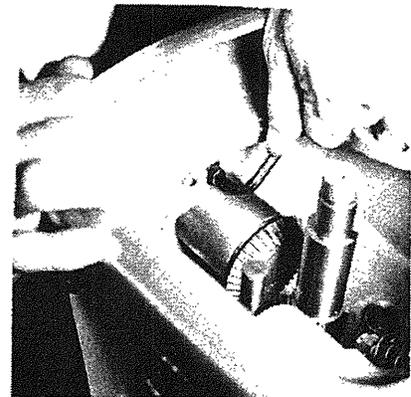

Fig. 3-17
- P. The attachment drive gear must be moved out of the way to remove the lower clutch gear and planetary shaft. Remove three screws and lockwashers (Fig. 3-17) and pull hub assembly forward far enough to clear the gear.